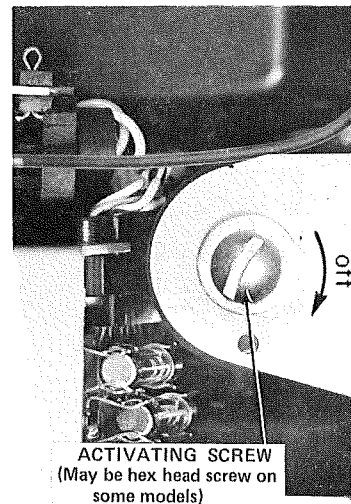

FIGURE 5-24 INK TURN OFF AND TURN ON
2. Observe activating screw, (Figure 5-24). Turn screw clockwise until spring in ink plunger is drawn up tight.
9. Turn activating screw counterclockwise (Figure 5-24) until snug to pressurize ink system. Check for leaks.
2. Turn OFF ink cartridge. (Activating Screw, Figure 5-24).